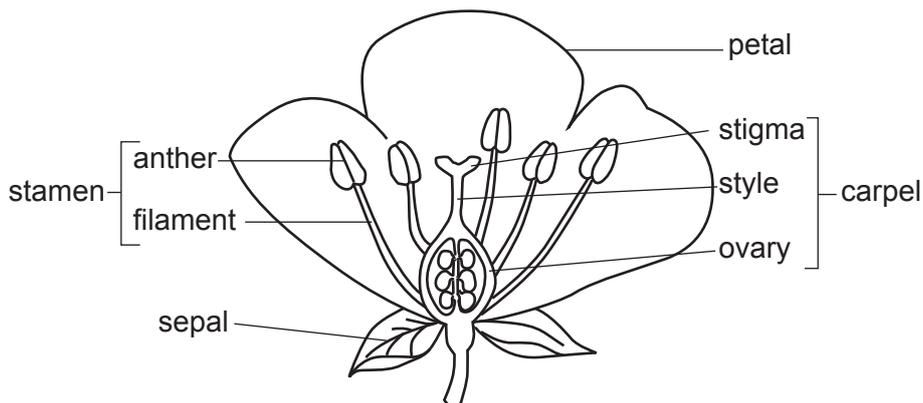
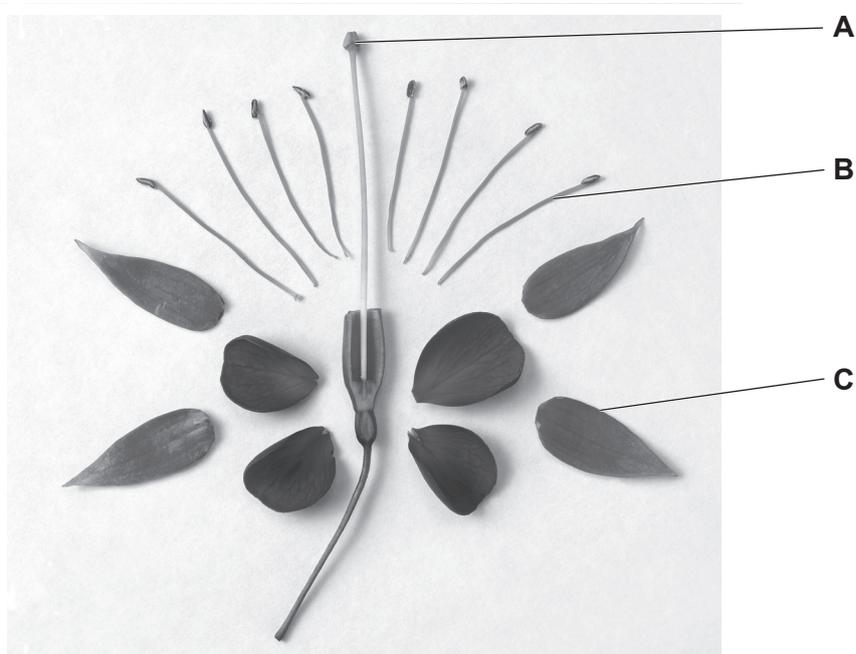

Fig. 2.1
Fig. 2.2
2 (a) Fig. 2.1 is a labelled diagram of the parts of a flower.
Fig. 2.2 is a photograph showing the parts of a flower that have been separated.
Complete Table 2.1 using the information in Fig. 2.1 and Fig. 2.2 by stating the:
- number of each of the flower parts **A**, **B** and **C** visible in Fig. 2.2.
| letter on Fig. 2.2 | name of flower part | number visible |